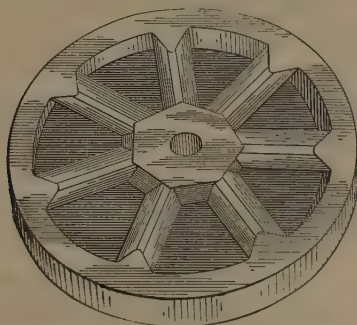

Fig. 127. Half of Vaucrain Two-part Cast-iron Piston-head.
A. By casting them of two sections and riveting them together; the sections being as shown in Fig. 127.